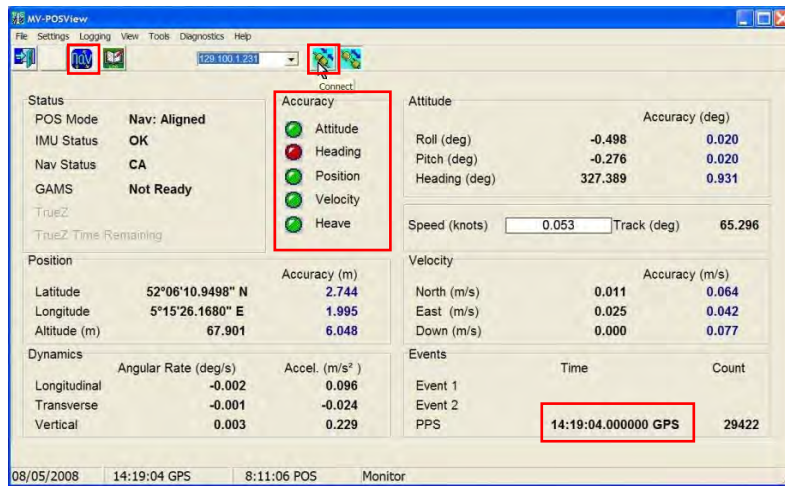

Figure 32: MV-POSView alarms
6. Open MV-POSView software (Figure 32)